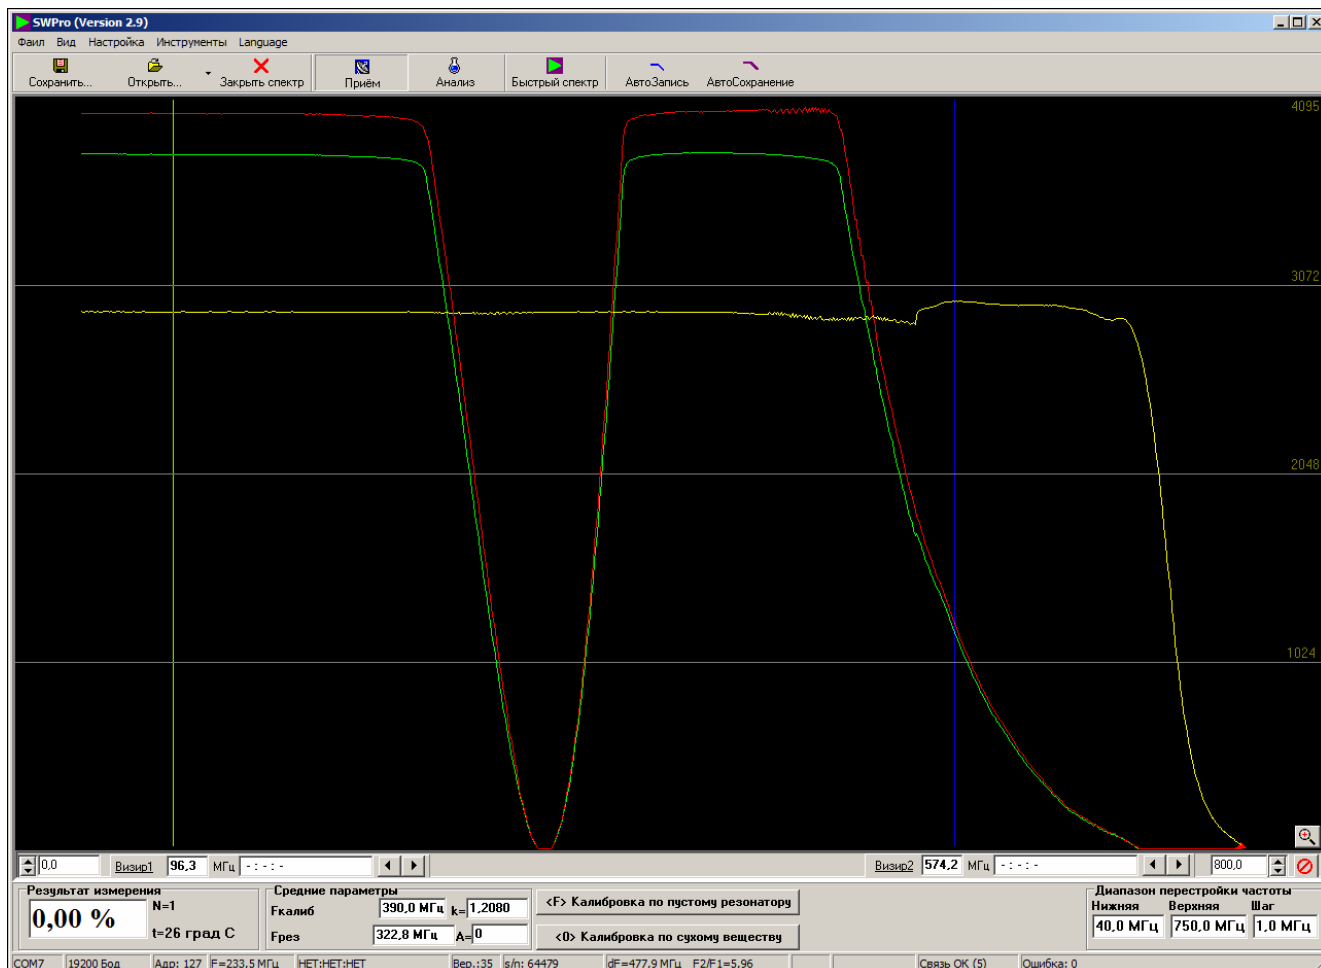

Fig. 1
The main window of the program (see Fig. 1) can be divided into three parts. The upper part of the window consists of menus and shortcuts for moisture meter and software control. The mid-section represents a field for displaying signal (spectrum) charts. The bottom section displays connection parameters and measurement results received from the moisture meter as well as moisture meter main setup parameters.
The program icon, SWPro name (program identifier), and software version number are displayed in the upper left corner in the main window of the program (see Fig. 1).
1)  $U(f_1) \leq U(f_2)$ . This condition indicates that analysis uses only that  $df$  range, for which the graph point corresponding to the right end is higher or equal to point corresponding to the left end (see Fig. 1).